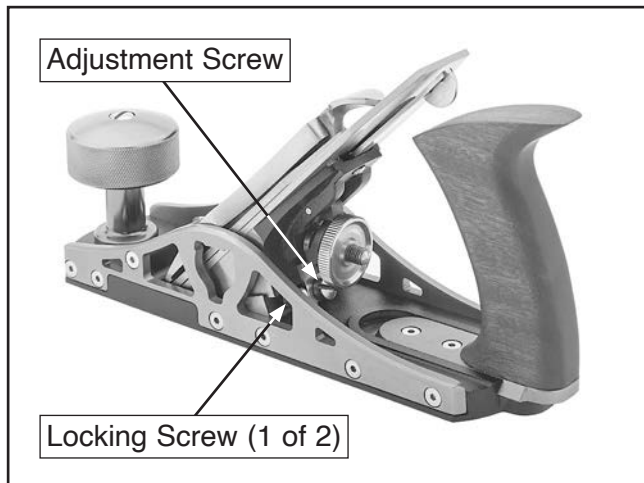

Figure 5. Frog position components.
1. Loosen (2) locking screws located on rear of frog (see **Figure 5**).
2. Rotate adjustment screw clockwise to close mouth, or counterclockwise to open mouth, then tighten (2) locking screws loosened in **Step 1** (see **Figure 5**).